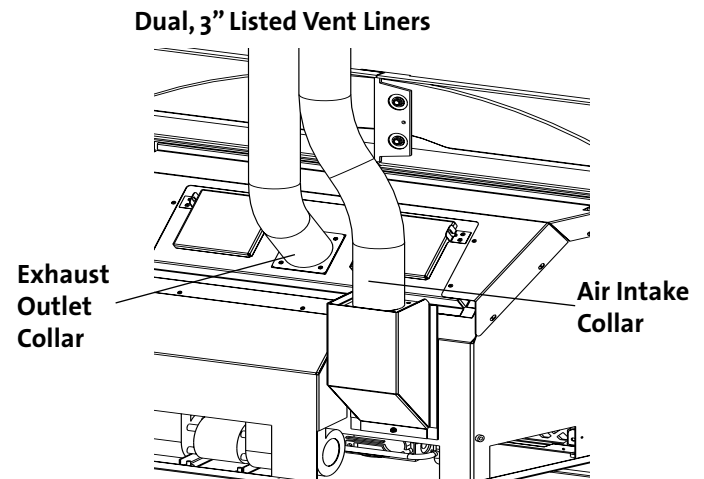

Figure 10. Vent duct collar locations, viewed from rear.
2. Identify the end of the Exhaust duct and secure it to the appropriate collar on the insert using a duct clamp as in Fig. 10.